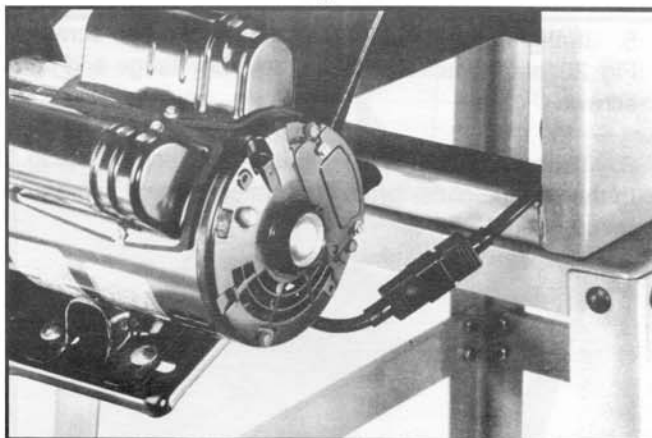

Fig. 19
2. Fig. 19, illustrates the motor cord connected to the switch assembly.